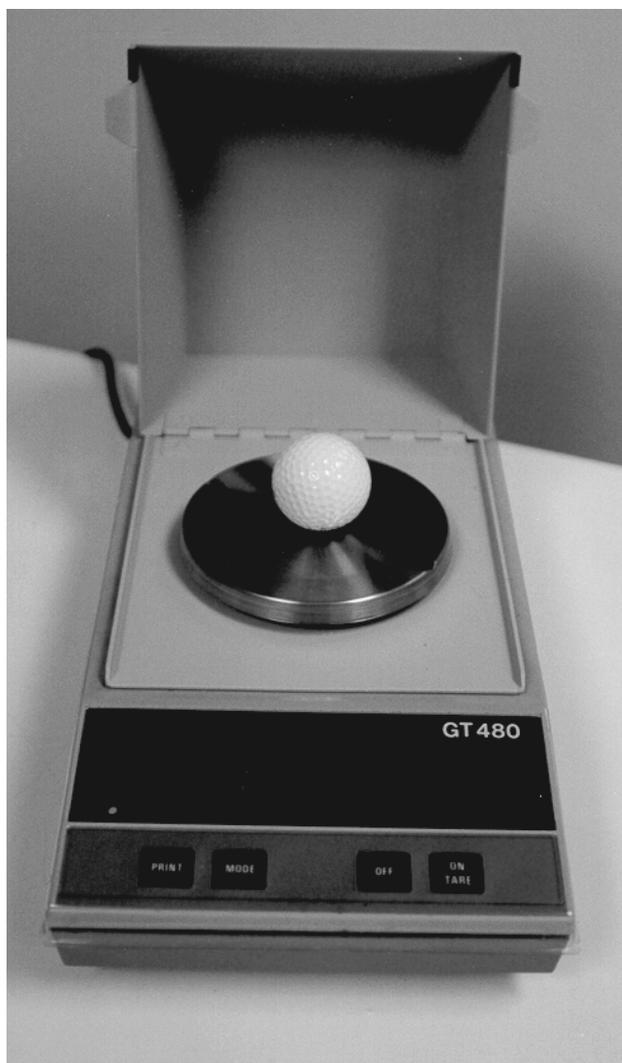

FIGURE 1 - Ohaus Electronic Scale
- 5.1 *Ohaus Electronic Scale*, shown in Figure 1.